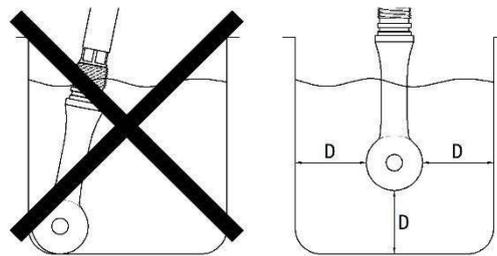

Figure 2 Sensor placement
- The sensor probe needs to be completely immersed in the solution, and the distance D from the sensor inner hole to the inner wall of the container and the water surface must not be less than 40mm (as shown figure 2), otherwise it may affect the measurement results.